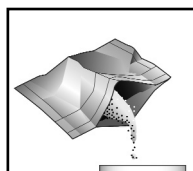

Figure 1
2. Empty the contents of one Zinc Foil Pack into the **reaction tube** (fig. 1). Cap the reaction tube and shake it vigorously for **exactly 2 minutes**.